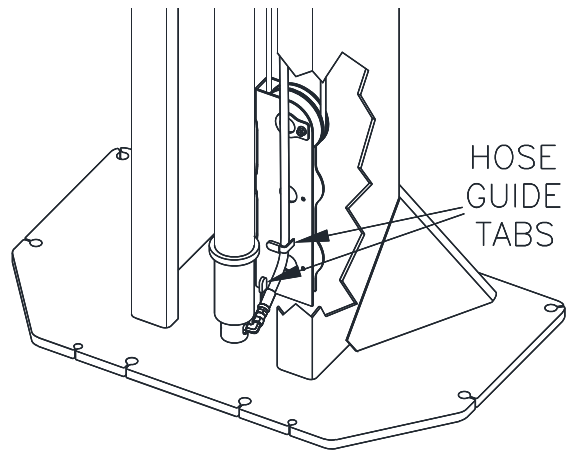

Fig. 15-Hose Connection
- 45) Each column hose should connect to its cylinder with a 90-degree elbow rotated up from horizontal and be routed thru the Hose Guide Tabs as shown in Fig. 15.